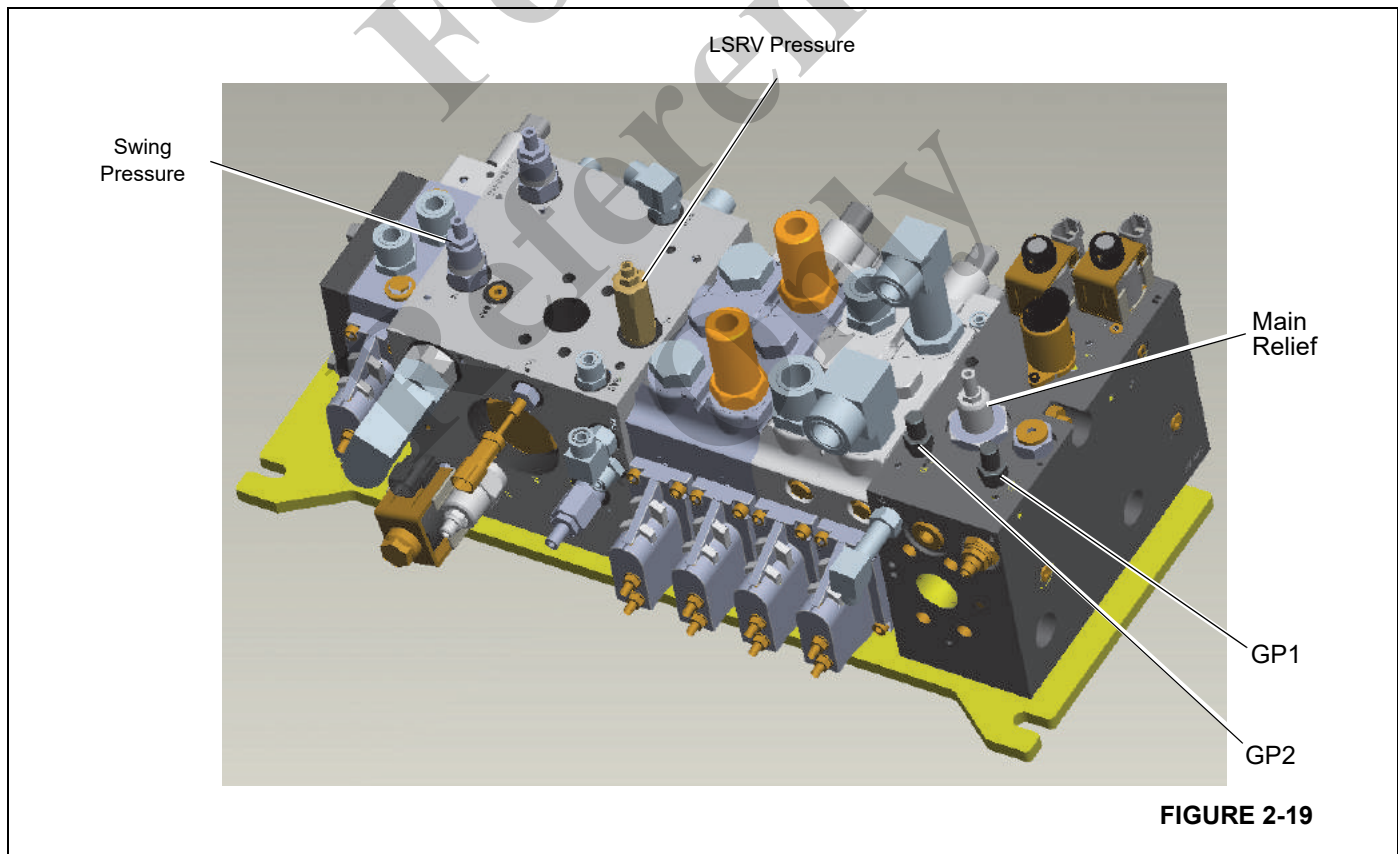
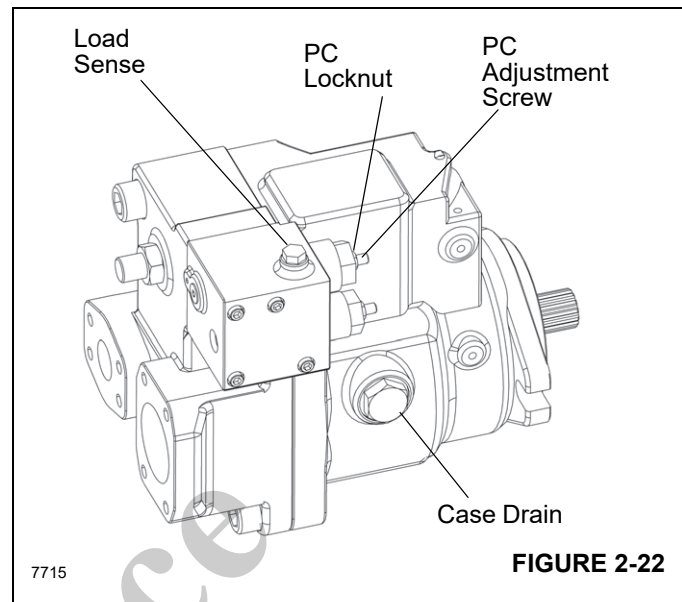

FIGURE 2-19
FIGURE 2-22
8. Install a gauge at the pump pressure gauge port (GP1) on the Directional Control Valve (DCV) Figure 2-19.
To check the margin pressure, there are two pressures that will be set as the crane's swing circuit requires 28 bar (400 psi) of back pressure all the time. This means that when a gauge is installed in the load sense port (GP2 in Figure 2-19), the pressure will read the relief that is present in the swing circuit. Therefore, the swing back pressure must be verified first.
After the swing back-pressure and pump margin settings are completed, the pump outlet gauge (GP1 in Figure 2-19) should be as follows:
- Install a gauge at the pump pressure gauge port (GP2) on the DCV (Figure 2-19).
- Install a gauge at the pump pressure gauge port (GP1) on the DCV (Figure 2-19).
than the desired setting of the maximum pump pressure. To do this, raise the LSRV setting (Figure 2-19) by loosening the locknut (1/2 in. hex) and turning the adjustment hex (4 mm) clockwise until bottomed out. This should result in a setting shown in Table 2-5.
2. Install a 414 bar (6000 psi) minimum gauge in the pump gauge port GP1 (Figure 2-19).
2. If the pressure reading is less than the Maximum Pump Pressure setting, raise the pump pressure compensating (PC) adjusting screw as shown in (Figure 2-22). Loosen M8 locknut and use a 4mm Allen wrench to adjust the setting. Turning clockwise increases the setting and each turn gains 100 bar (1450 psi).
3. Increase the pressure compensator (PC) setting until Main Relief Pressure (Table 2-5) is reached on the gauge. There should be an audible hiss at the main relief and the return line back to the hydraulic tank should feel as if there is a large oil flow to tank. This means that the main relief setting has been reached.
4. If the Main Relief Pressure setting (Table 2-5) cannot be reached on the gauge, the main relief valve setting must be increased (Figure 2-19). This can be adjusted by loosening the 3/4 in. locknut and using a 3/16 in. allen wrench to adjust the setting. Turning clockwise increases the setting and each turn gains 91 bar (1315 psi). Be sure to re-tighten the 3/4 in. locknut to 8 Nm (6 lb-ft) when setting is correct.
5. After the desired main relief setting is reached, the pump pressure compensator (PC) setting must be returned to the value from Table 2-5. See "D. Setting Maximum Pump Pressure, page 2-28."
1. Install 414 bar (6000 psi) gauge at the pump pressure gauge port (GP1) on the DCV Figure 2-19.
2. Start the engine and activate hoist joystick. Adjust pressure compensator (PC) Adjusting Valve (Figure 2-22) counter clockwise to attain correct pressure. Refer to Table 2-5 for correct Maximum Pump Pressure reading.
1. Install a 345 bar (5000 psi) gauge at the pump pressure gauge port (GP2) on the DCV (Figure 2-19).
If the LSRV pressure is not correct, adjust the LSRV adjusting screw as shown in Figure 2-19.